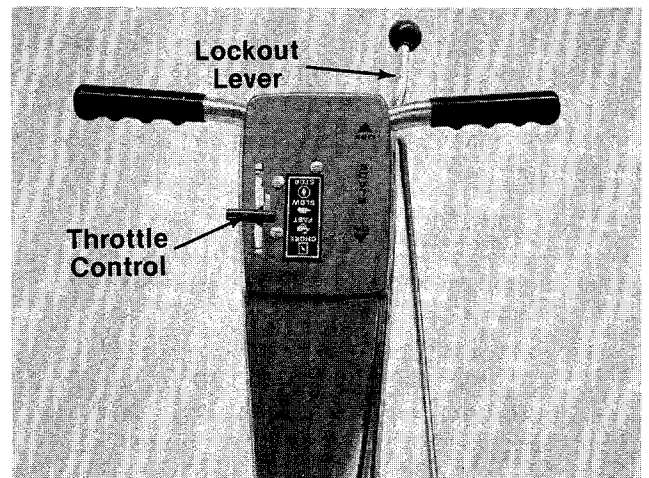

FIGURE 11.
1. Move lockout lever to "OFF" position. See figure 11.
2. Move throttle control lever to "CHOKE" position. See figure 11.